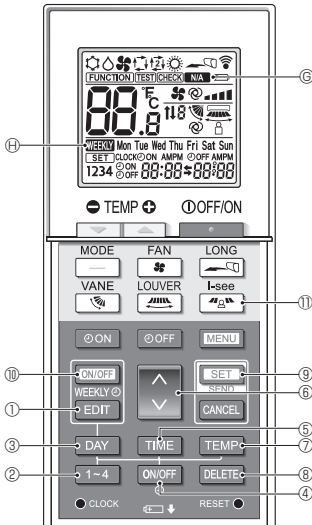

Fig. 4-3
<Switching to the editing mode> (Fig. 4-3, Fig. 4-4)
Press the **[1-4]** button ②. (Fig. 4-3, Fig. 4-4)
- Each time the **[1-4]** button ② is pressed, the pattern number ④ changes in the following order: 1 → 2 → 3 → 4.
Press the **[DAY]** button ③. (Fig. 4-3, Fig. 4-4)
- Each time the **[DAY]** button ③ is pressed, the day of the week ⑤ changes in the following order: Mon → Tue → Wed → Thu → Fri → Sat → Sun → All days.
1. Press the **[ON/OFF]** button ④. (Fig. 4-3, Fig. 4-5 ⑩)
- **[ON/OFF]** ④ appears.
- Each time the **[ON/OFF]** button ④ is pressed, the setting switches between **[ON]** and **[OFF]**.
2. Press the **[TIME]** button ⑤. (Fig. 4-3, Fig. 4-6)
- Press the **[↓]** button ⑥ to set the operation time.
3. Press the **[TEMP]** button ⑦. (Fig. 4-3, Fig. 4-7, Fig. 4-8)
- Press the **[↓]** button ⑥ to set the temperature.
- When the AUTO (dual set point) mode is enabled, press the **[TEMP]** button ⑦ to switch between the upper limit ⑥ and the lower limit ⑦.
<Deleting the settings> (Fig. 4-3)
<Transmitting the settings> (Fig. 4-3)
<Enabling the weekly timer> (Fig. 4-3)
4.7. i-See sensor (Fig. 4-3)